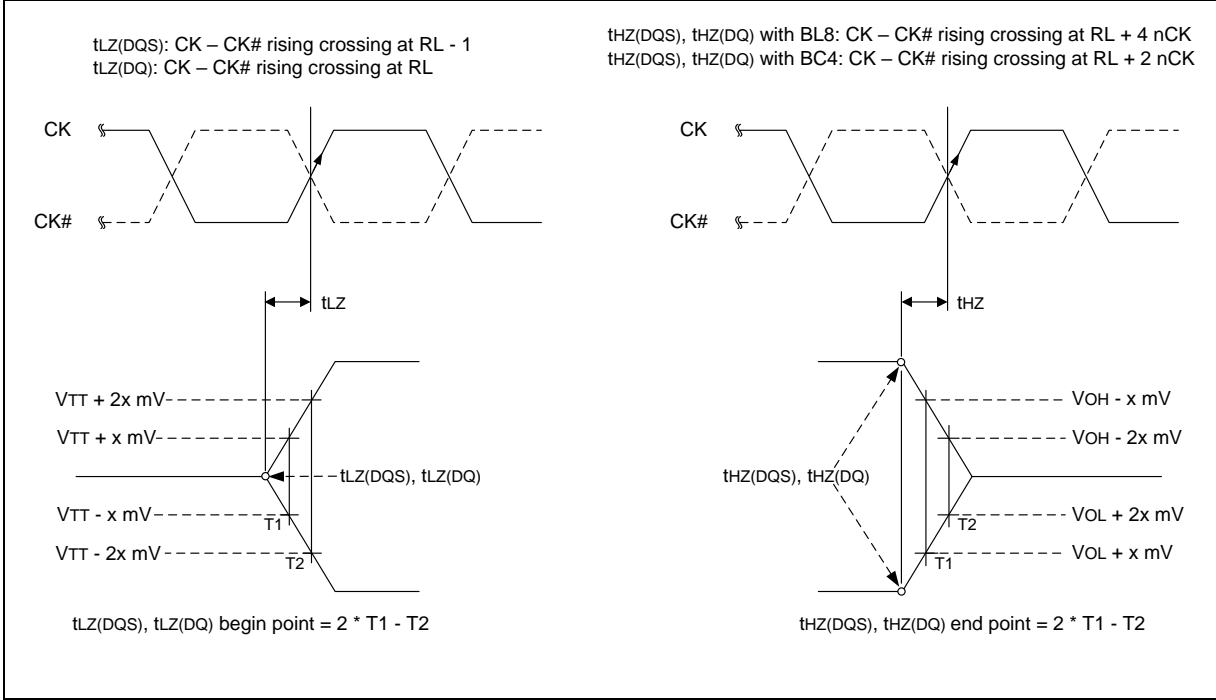

Figure 26 – tLZ and tHZ method for calculating transitions and endpoints
tLZ(DQS), tHZ(DQS) for preamble/postamble (see section 8.13.2.3 and Figure 26).
8.13.2.3 tLZ(DQS), tLZ(DQ), tHZ(DQS), tHZ(DQ) Calculation
thz and tlz transitions occur in the same time window as valid data transitions. These parameters are referenced to a specific voltage level that specifies when the device output is no longer driving thz(dqs) and thz(dq), or begins driving tlz(dqs), tlz(dq). Figure 26 shows a method to calculate the point when the device is no longer driving thz(dqs) and thz(dq), or begins driving tlz(dqs), tlz(dq), by measuring the signal at two different voltages. The actual voltage measurement points are not critical as long as the calculation is consistent. The parameters tLZ(DQS), tLZ(DQ), tHZ(DQS), and tHZ(DQ) are defined as singled ended.